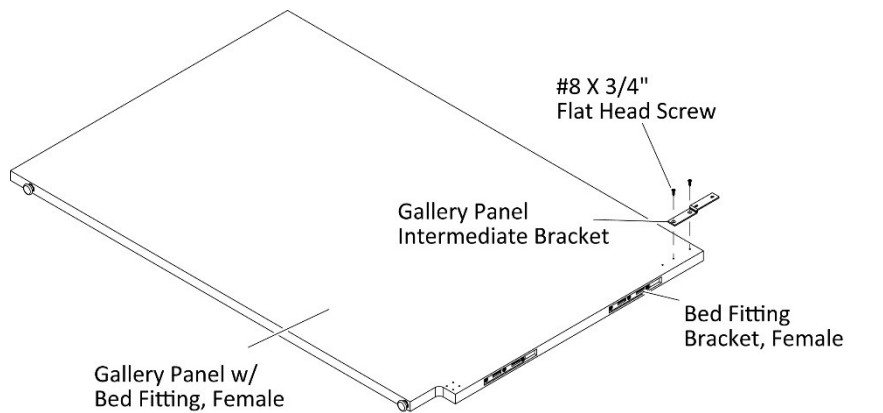

Figure 3
- Position and align holes in gallery panel intermediate bracket to pre-drilled holes in gallery panel with female bed fitting bracket, (Figure 3).